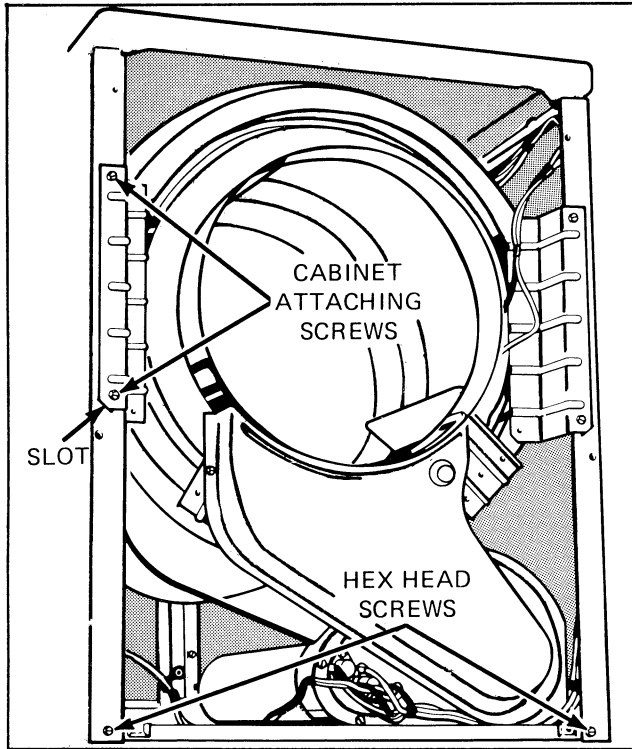

Figure 42H
2. Remove four hex screws securing bulkhead to cabinet and lift assembly out of the slots in cabinet. Remove cylinder guide, *Figure 42H*.